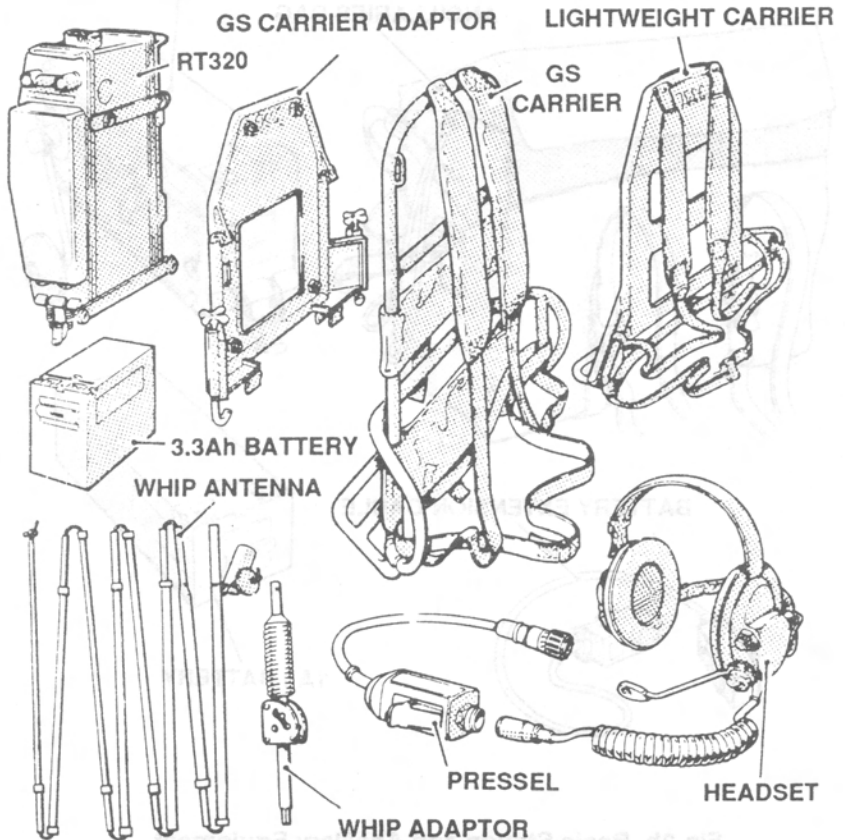

Fig.2a Basic Station and Ancillary Equipment
2.1 The items comprising the basic station and its auxiliary equipment are illustrated in Fig.2a, b, c, in which they are referred to by their common names.
2.5 The correct carrying position for the manpack is as shown in Fig.1 (page xii). The lightweight carrier illustrated in Fig.2a (page 13) can be used as an alternative.